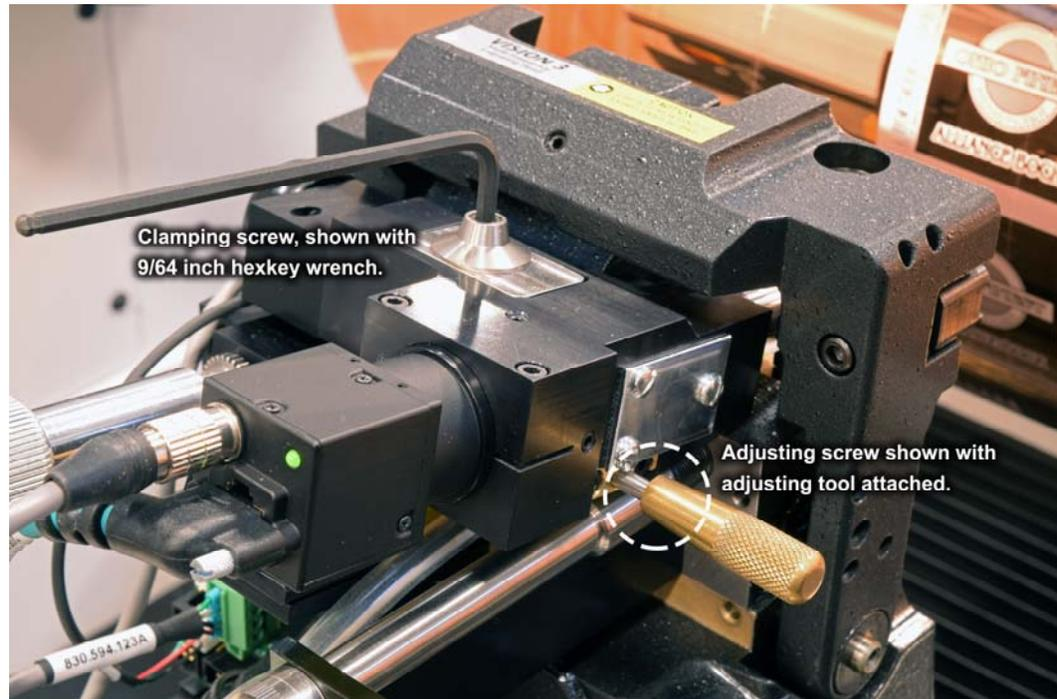

Figure 3 Adjusting and locking screws
7. Slightly loosen the large shoulder screw on the top of the camera block using a 9/64" hexkey. This screw clamps the camera to prevent movement. See Figure 3.
8. Turn the adjusting screw on the right side of the camera block to shift the image left or right. Use the adjusting tool (D370029-01) from the Prism tool kit, or a 9/64" open-end wrench, for adjusting the screw. The location is shown in Figure 3.